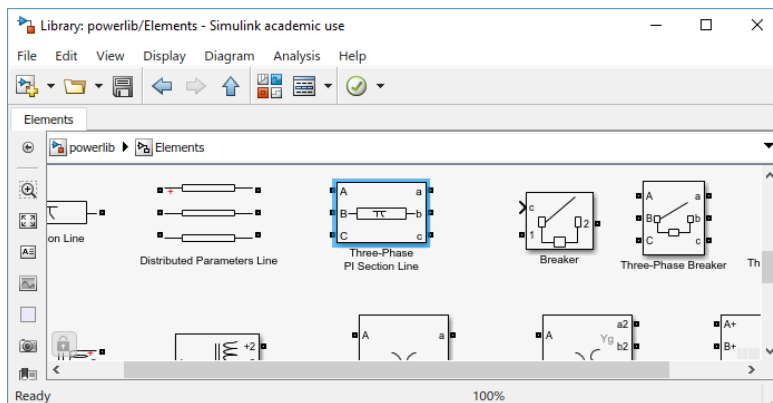

Figure 7
- Transmission lines are modelled by **Three-phase PI-section Line** (Figure 7) also found among **Elements**.